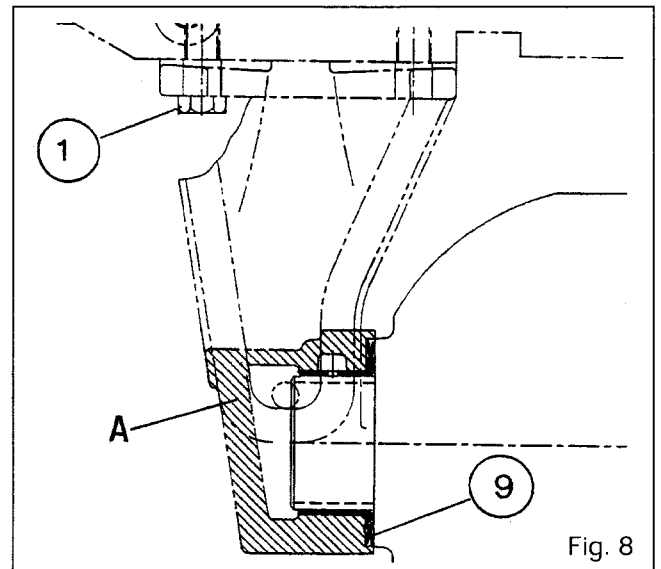

Fig. 8
A : Support with dust guard (9) (Fig. 8).